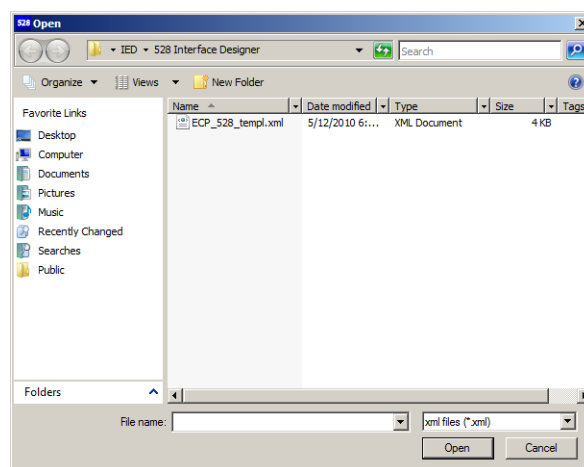

Figure 6-9: Import Template Dialog
2. This will open a standard Windows *Open* dialog window as shown in Figure 6-9
4. Highlight the file to import as shown in Figure 6-9.